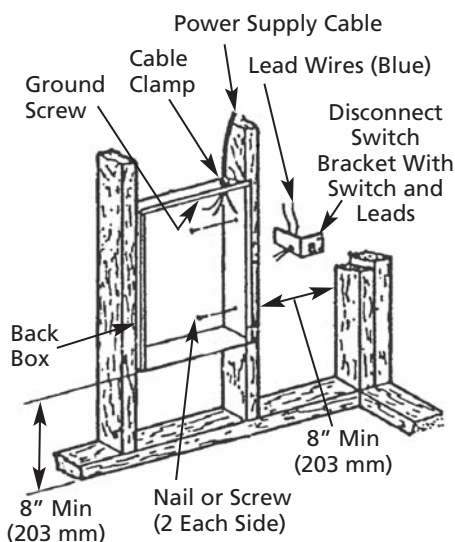

Figure 2 – Locating Recessed Back Box in New Construction
- Mounting Back Box (See Figure 2, page 2).
- c. Secure the back box in position with wood screws or nails as shown in Figure 2.
2. Power Supply Wiring (See Figure 2).